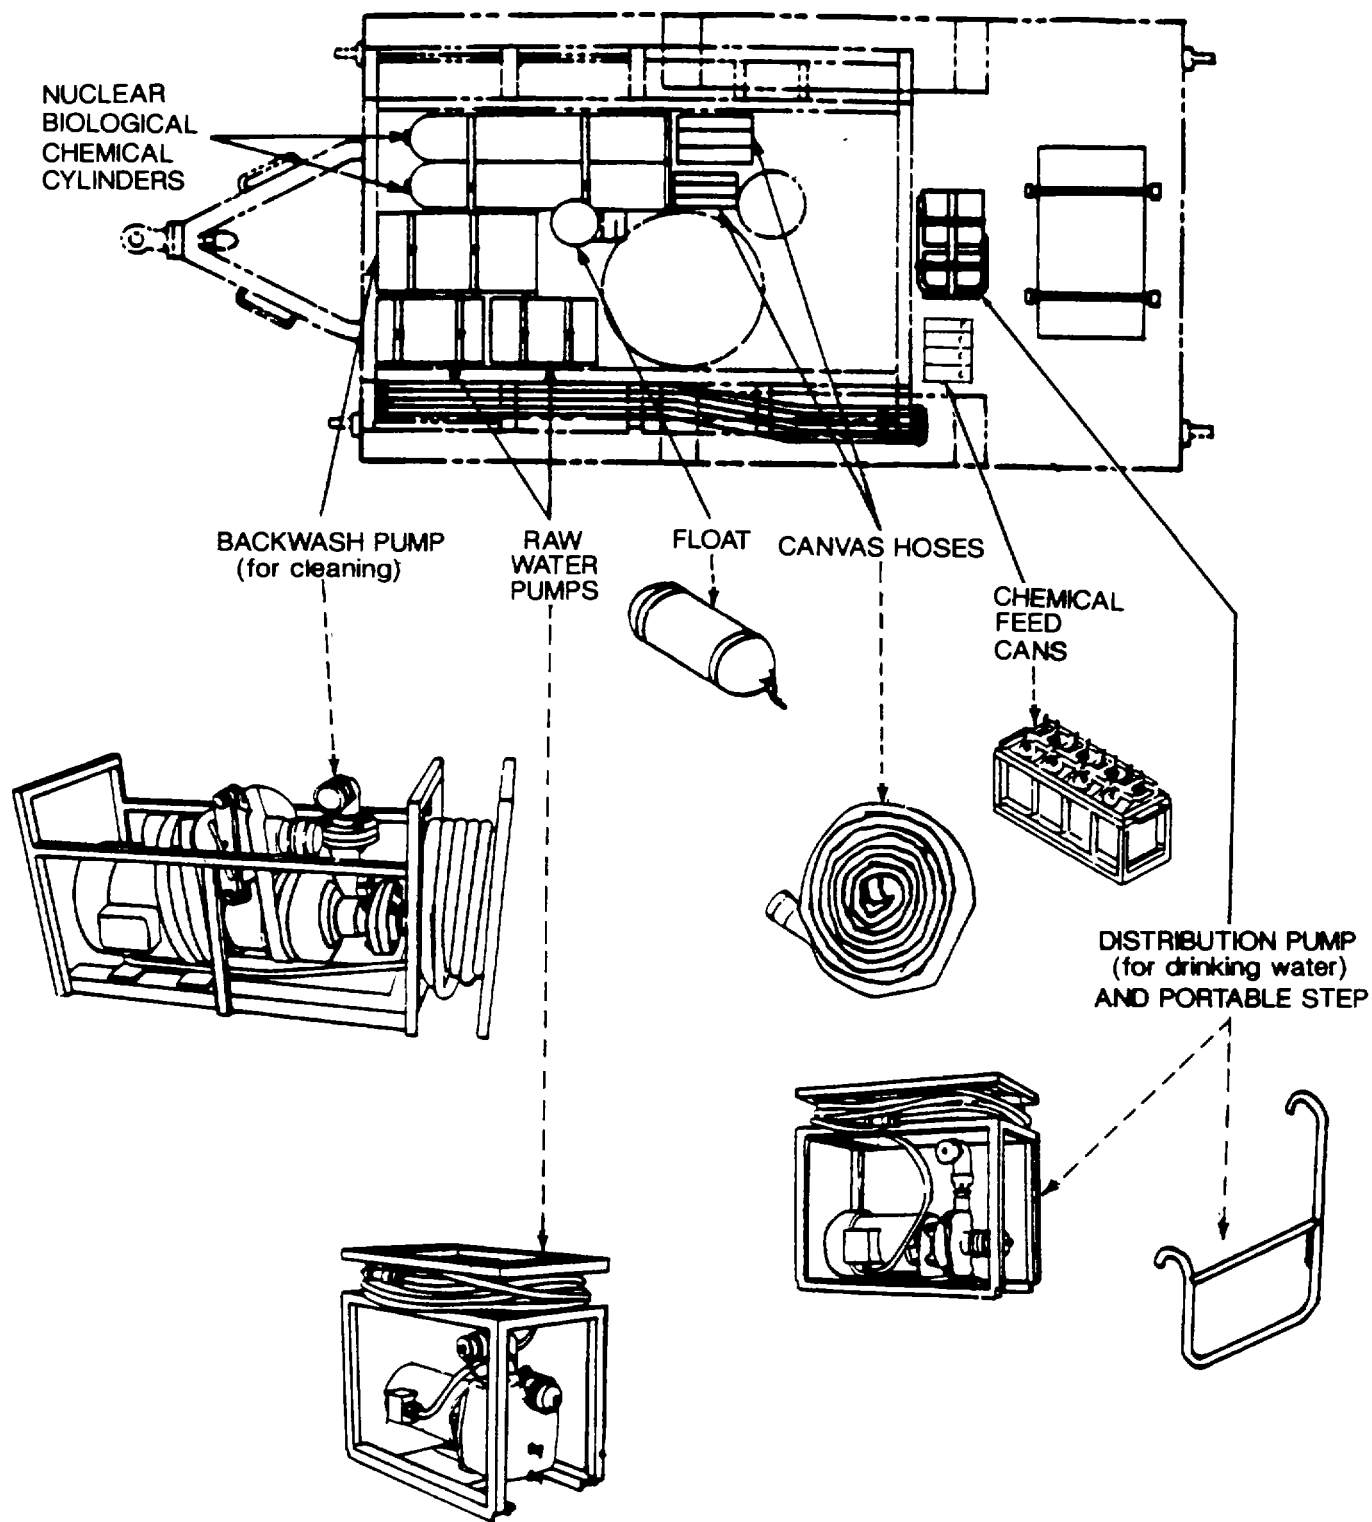
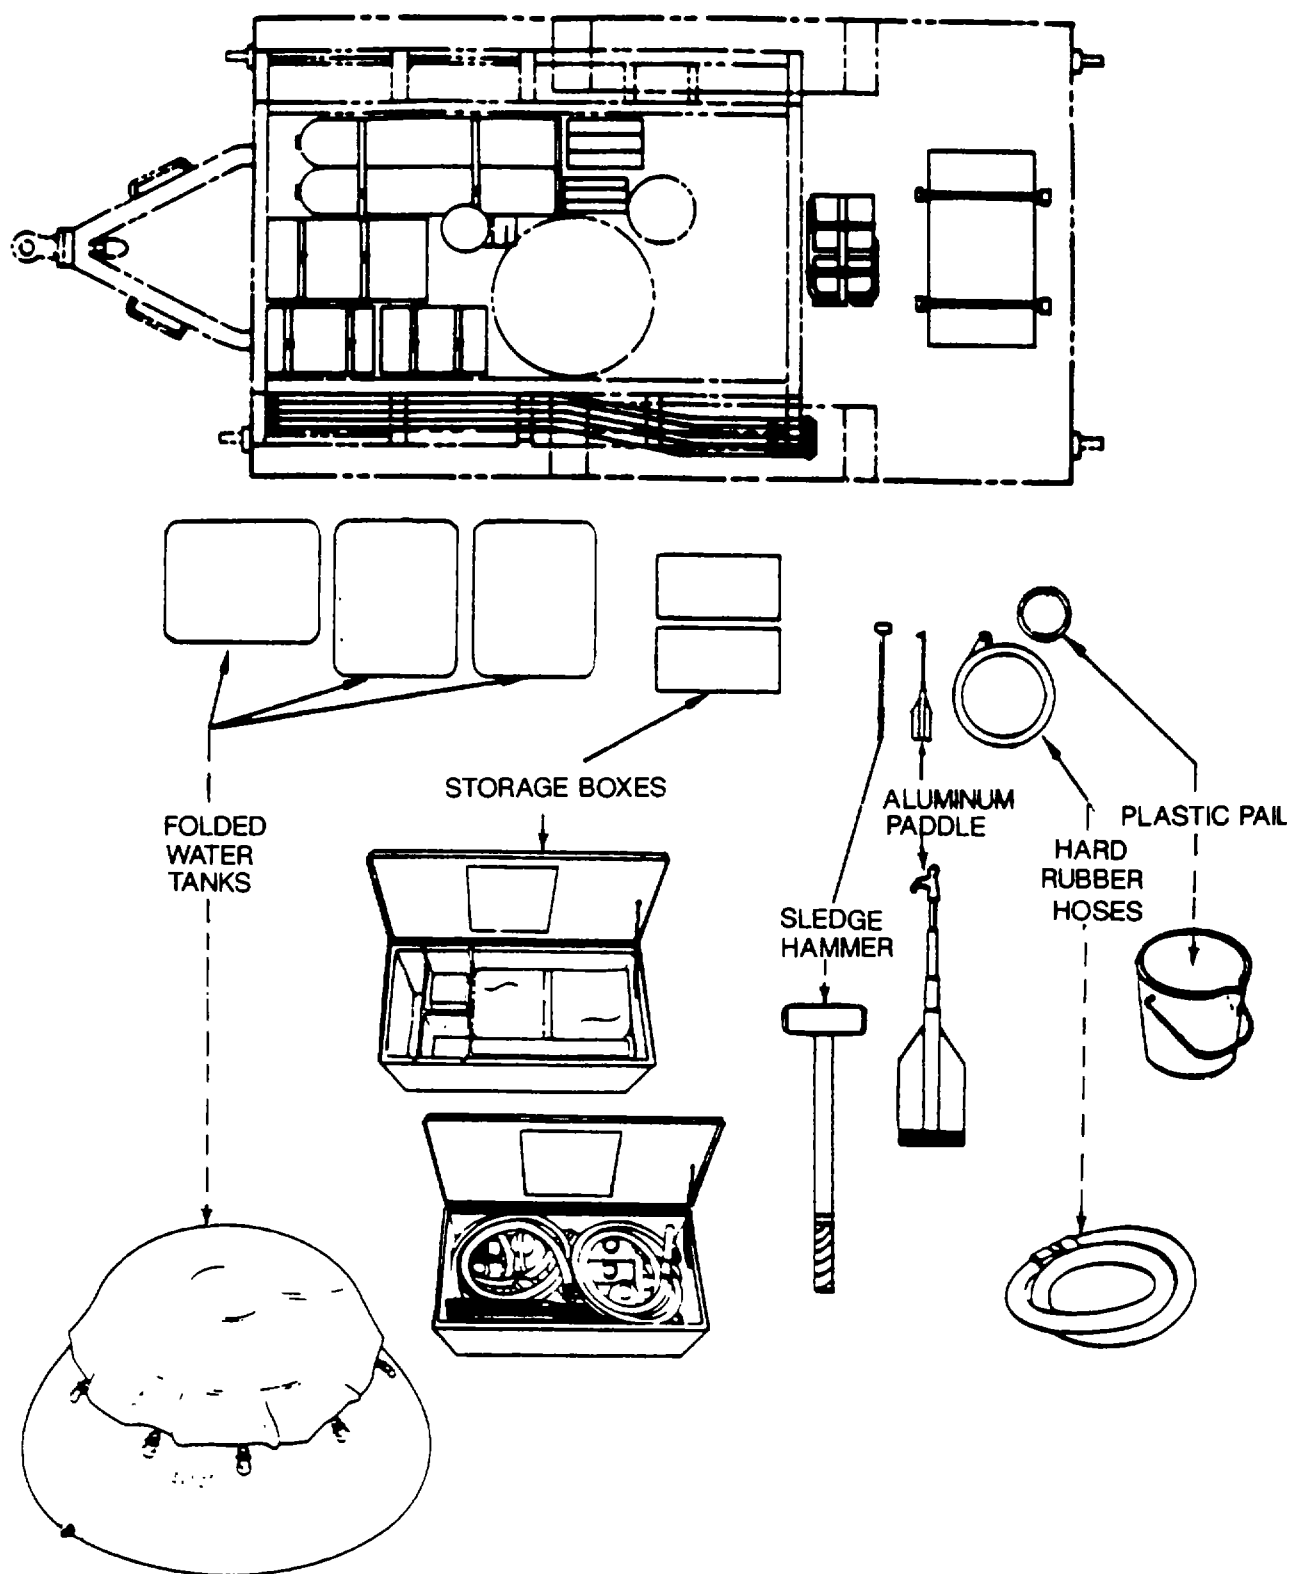

Figure 1-5. Top View of ROWPU With Pumps (Army)
Figure 1-7. Top View of ROWPU With Operating, Equipment Removed (Army)
b. In the second layer you will find two raw water pumps and a backwash pump (fig. 1-5 and 1-6). The pumps are covered with canvas and strapped down. A distribution pump is located at the rear of the unit, next to the generator (Army ROWPU only), not shown here. Army ROWPU includes a portable step strapped down with distribution pump. On the right side are 1 ½ inch and 2-inch diameter discharge (canvas) hoses, rolled-up. A raw water float is in the center of the ROWPU next to two nuclear, biological, chemical (NBC) cylinders. Figs. 1-7 and 1-8 show ROWPU with operating equipment removed.